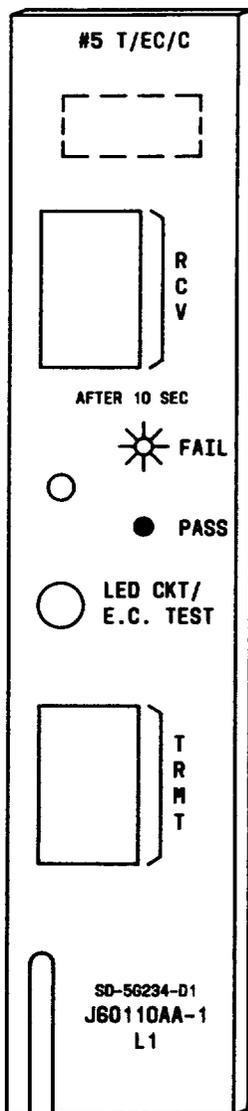

Fig. 1 — J60110AA-1 Transceiver
**2.01** The J60110AA transceiver (Fig. 1) is assembled on an epoxy glass printed wiring board which is mounted on a die-cast aluminum frame to form a plug-in unit. The unit is approximately 1-3/4 inches wide, 8 inches high, and 10-1/2 inches deep. The printed wiring board has switches to tailor the unit for a variety of trunk applications. The faceplate has variable pads to adjust transmit and receive levels and a recessed switch and indicator which provides a comprehensive test of the transceiver.
- (d) The FAIL PASS indicator (Fig. 1) on the faceplate will light and extinguish.
- (e) Operate the recessed LED CKT/EC (S1) test switch (shown in Fig. 1) until it clicks.